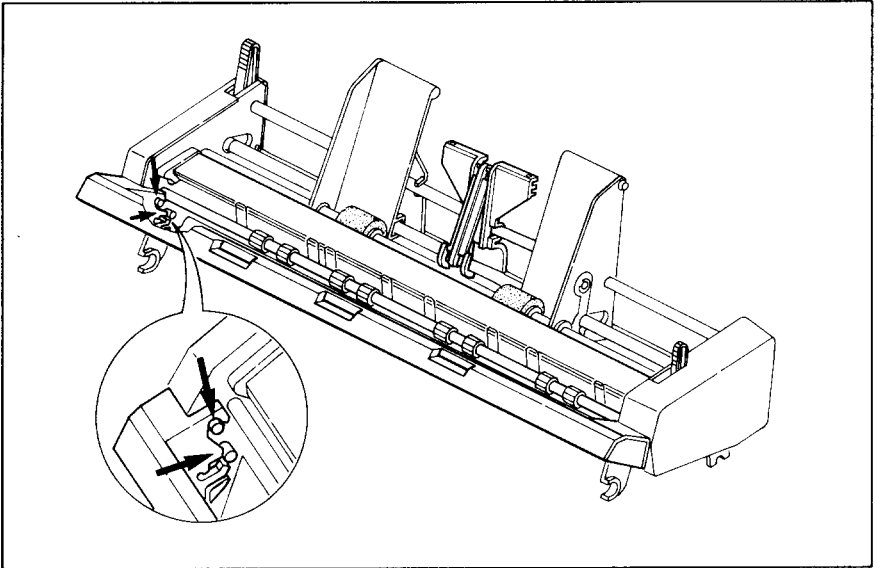

Figure 3-3. Attach the stacker to the Automatic Sheet Feeder.
4. A stacker is included with the Automatic Sheet Feeder. Attach the hook at the top of the stacker to the Automatic Sheet Feeder. Then push the lower section of the stacker down into position, and engage the lower hook as shown in Figure 3-3.